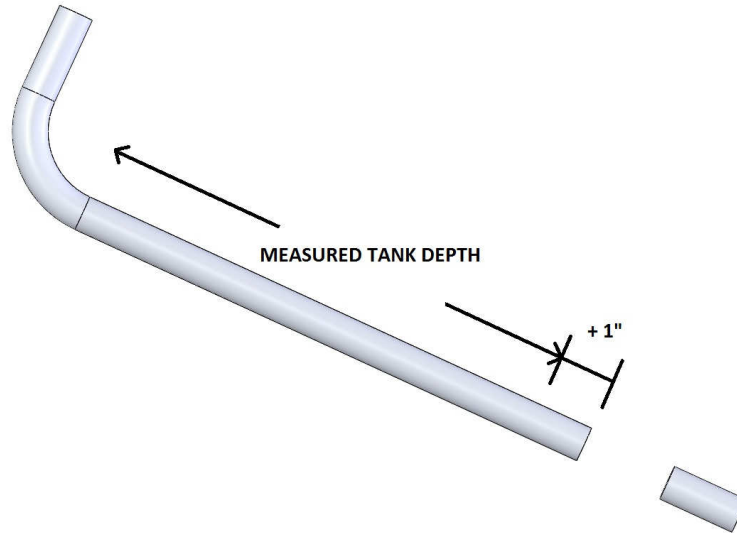

**FIGURE 1-5**
6. Before removing the fuel tank from the vehicle, mark the tank where there is adequate room between it and the bed. These locations will be used to determine the best spot for the feed and return tubes. Remove the fuel tank from the vehicle and place it on the ground. Remove the factory fuel level sending unit and set aside (careful not to damage it and note the orientation of the float arm). Choose a location that's close to the factory tank opening because you have to reach the backside to install a nut. Before drilling your holes make sure the factory fuel level arm will not come in contact with the Aeromotive baffled pickup assembly (**Location marks are examples only**). Failure to do so will result in the gas gauge not working. **FIGURE 1-5**